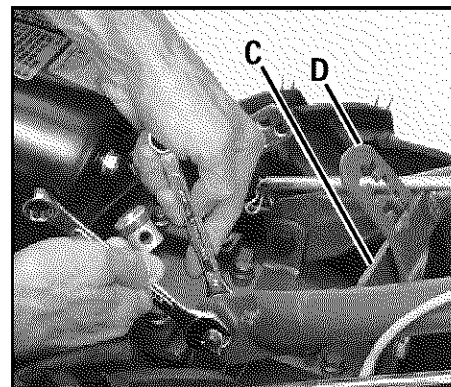

Figure 2-3: Attach handlebars.
2. Position the handlebar cross-brace (C, Figure 2-3) in front of the curved height adjustment bracket (D) and place the handlebar ends to the outside of the two mounting tabs on top of the transmission.
3. Attach the handlebars to the mounting tabs with two 3/8-16 x 1" screws (heads of screws go to inside of tabs), 3/8" flat washers and 3/8-16 Nylock lock nuts (see Figure 2-3). Do not fully tighten the screws at this time.
5. Thread the height adjustment handle (F, Figure 2-3) into the threaded hole in the handlebar cross-brace, making sure that the raised keys on the washer fit into the selected slot on the curved bracket. Tighten the handle securely. Next, securely tighten the two screws that attach the handlebars ends to the mounting tabs.